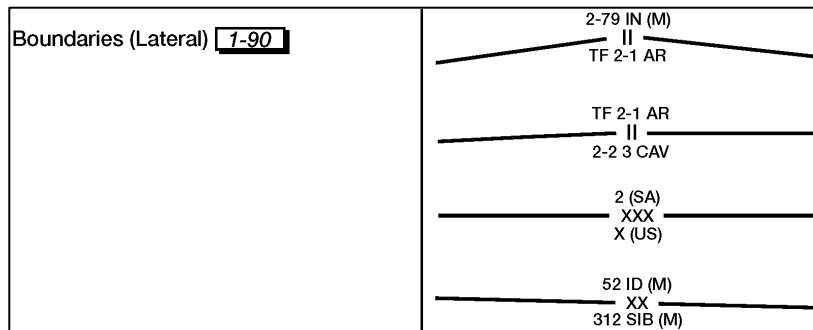

**Figure 071-332-5000-3. Lateral Boundary**
(1) An axis of advance arrow should extend only as far as this form of control is essential to the overall plan. Normally, it is shown from the line of departure (LD) to the objective following an avenue of approach. It indicates that the commander may maneuver his forces and place them freely to either side of the axis to avoid obstacles, engage the enemy, or bypass enemy forces that could not threaten his security or jeopardize the accomplishment of his mission. The commander ensures that such deviation does not interfere with adjacent units, that his unit remains oriented on the objective, and that the location and size of the bypassed enemy forces are reported to higher headquarters. Boundaries may be assigned as an additional control measure when using the axis of advance, if the situation so dictates.
(2) An axis of advance is shown below, identified by a code. It could be identified by a unit designation (figure 071-332-5000-4).